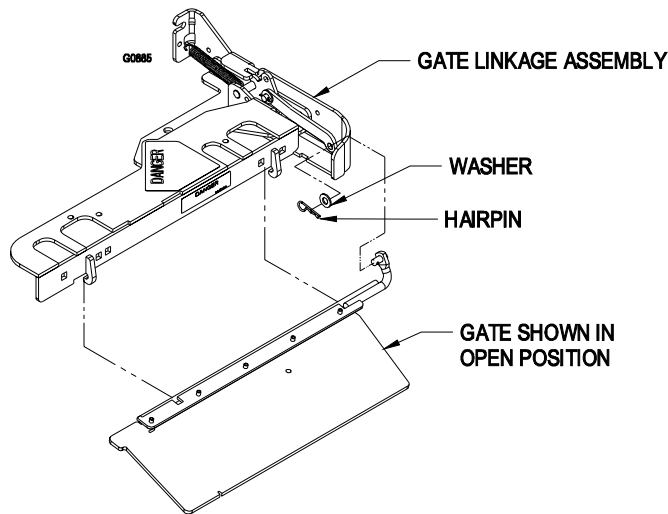

FIGURE 10
- 3.2.11 Hook the gate assembly (item 16) to the gate linkage assembly (item 12). Install the washer (item 15) and fasten with the hairpin (item 14) as shown in Figure 10.